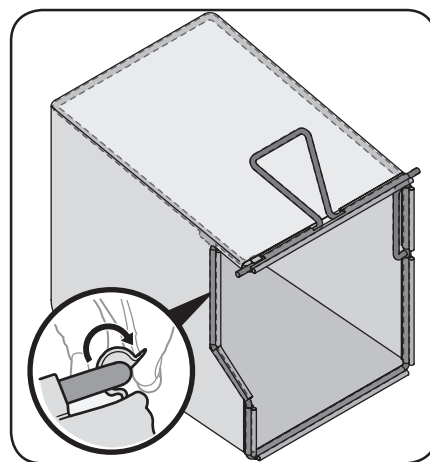

Figure 2-4
- b. Slip plastic channel of grass bag over hooks on the frame. See Figure 2-4.